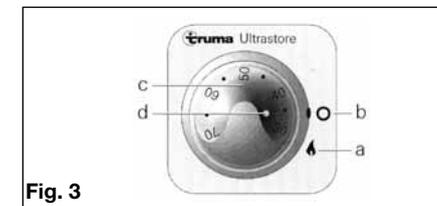

Fig. 3
3. Select required water temperature at rotary knob (c) infinitely variable from approx. 30° to 70°C (Fig 3).